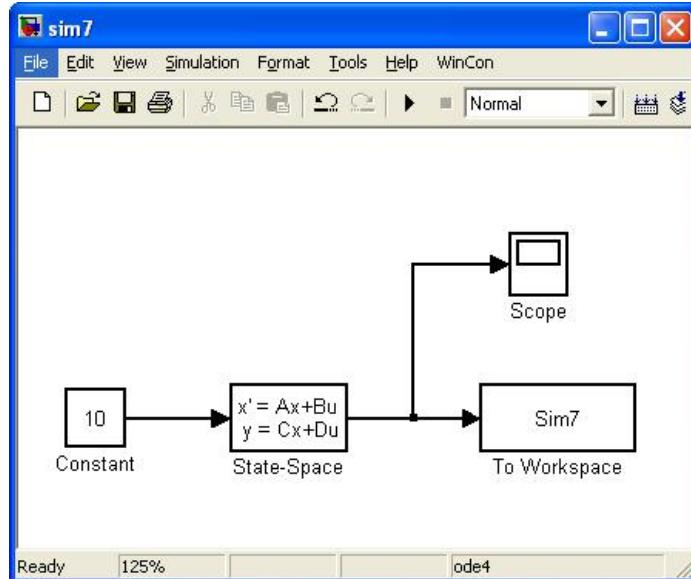

Figure 4.1: Simulink model for a generic second-order system
2. Open Matlab and build a Simulink model according to Figure 4.1. You should have